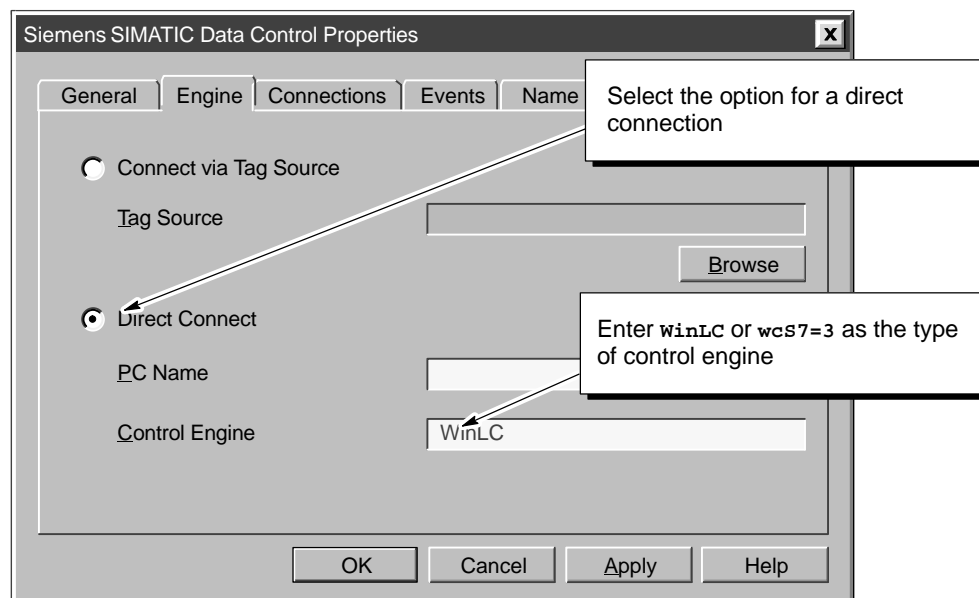

Figure F-1 Connecting to the Control Engine (Scrollbar Control Example)
1. Select the "Engine" tab to configure the control engine. See Figure F-1.